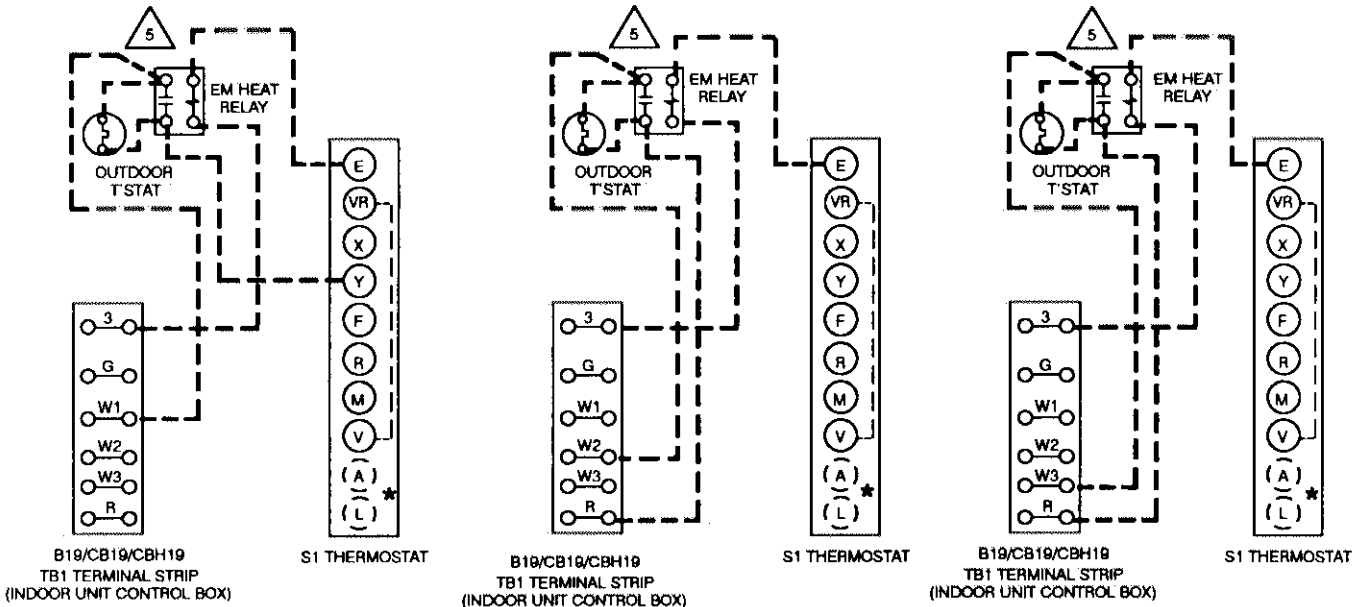

FIGURE 5
Wiring must conform to the National Electric Code (NEC) and local codes. Application diagram is included in this instruction (See figure 5) and in indoor unit instructions. Refer to unit rating plate for minimum circuit ampacity and maximum fuse size.
- 3- Provide low voltage wiring from outdoor to indoor unit and from thermostat to indoor unit as indicated on the field wiring diagram in this instruction (See figure 5).
- 1- Connect gauge manifold as shown in figure 5. Connect an upright R-22 drum to center port of gauge manifold.